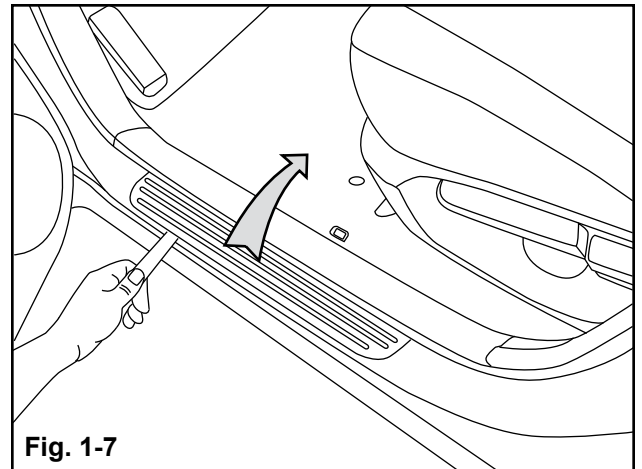

Fig. 1-7
- a) Using Panel Removal Tool, release clips and pull scuff plate upwards to remove. **(Fig. 1-7)**